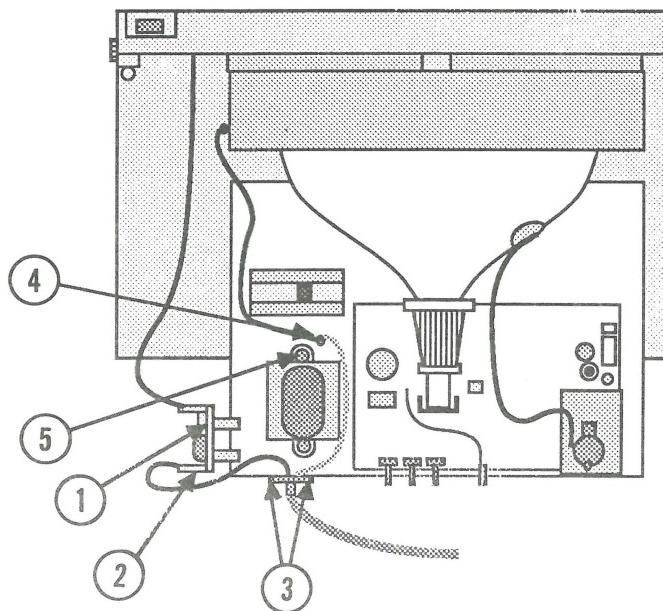

FIGURE 1
3. Locate the line filter board (Figure 1, #1) and AC IN connector (Figure 1, #2).
- b) Remove the two screws (Figure 1, #3) that secure the power cord bracket to the rear of the chassis.
- a) Holding the hex nut steady with the long-nose pliers, remove the main chassis ground screw (Figure 1, #4) that secures the black bezel ground wire to the floor of the metal chassis.
- b) Attach the tab of the black bezel ground wire to an alternate site—the screw and nut (Figure 1, #5) that secure the transformer to the metal chassis.
- b) Replace the two screws (Figure 1, #3) that secure the power cord bracket to the rear of the chassis.
- d) Position the tab of the power cord green ground wire at the main chassis ground site (Figure 1, #4) and replace the screw and nut.